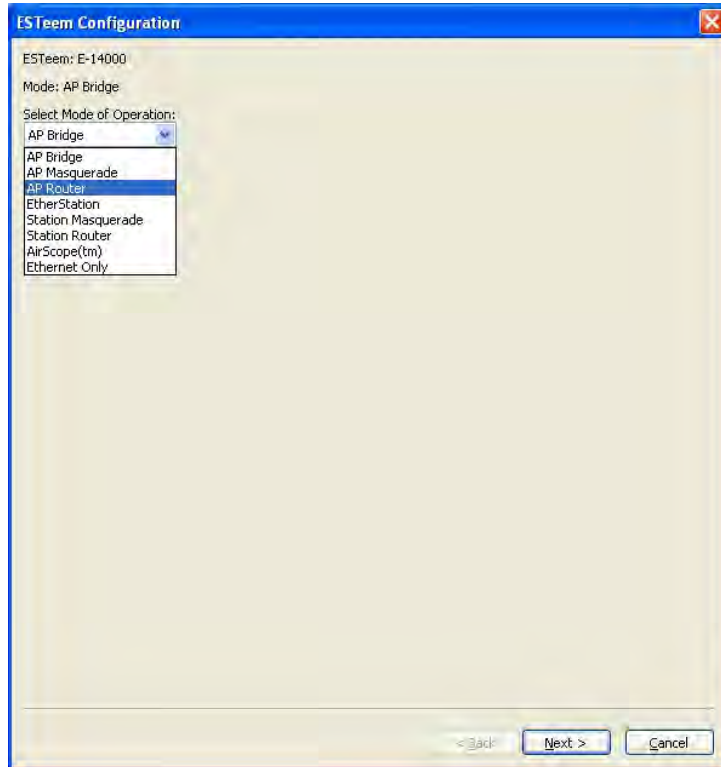

Figure 21: AP Router Configuration
- Change the Mode of Operation from AP Bridge to AP Router (or Masquerade if desired) and press the Next button at the bottom of the window (Figure 21).